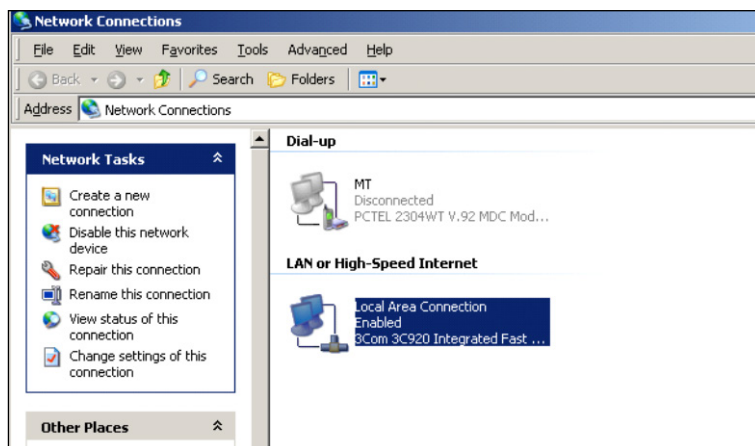

Figure B-5: Network Connections Screen
5. The screen shown in Figure B-5 appears.